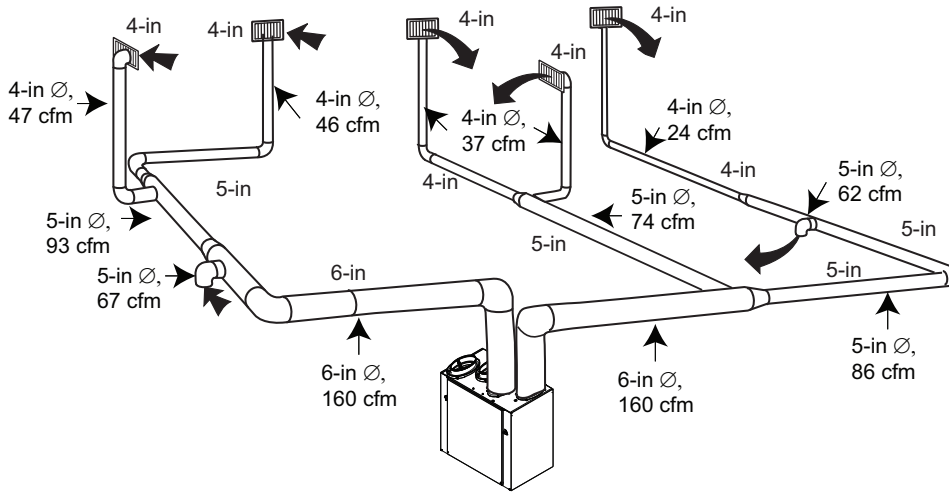

Fig. 10 - Fully ducted system
- B.** Fig. 10 is an example of a design for a fully ducted system with a unit having a high speed performance of 140 cfm.